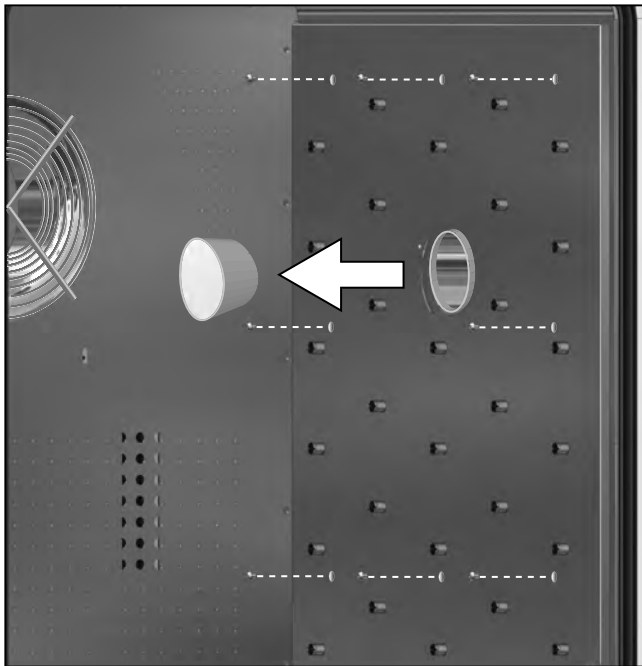
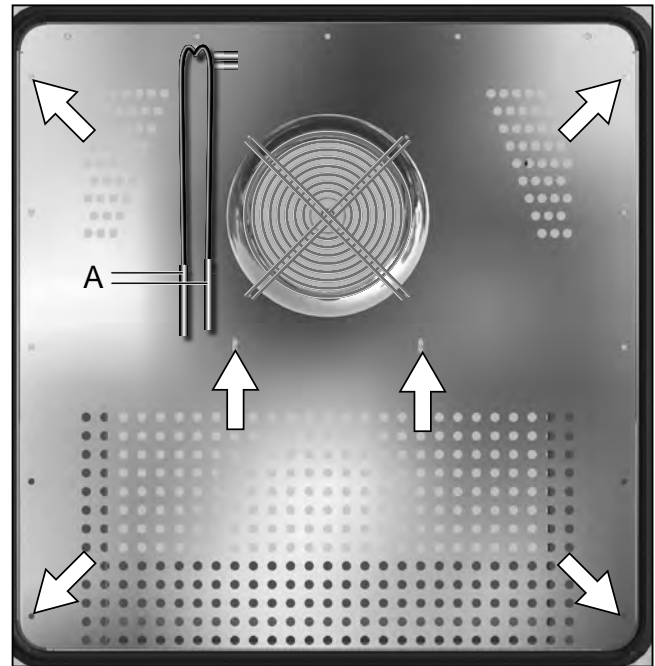

Fig. 36
Fig. 37
1. Pull out the silicone plugs, remove the 8 Allen screws each on the left and right side walls and remove the walls (Fig. 36).
2. Pull both temperature sensors from their sockets and let them hang down (Fig. 37, A).
3. Dismantle the rear wall of the test chamber; to do this, remove the 4 screws in the corners and 2 screws beneath the fan and pull out the metal plate at an angle (Fig. 36). Make sure that the temperature sensors are guided through the opening in the steel plate and remain in the interior.
5. When cleaning is finished, push the rear wall at an angle back into the test chamber. Thread the two temperature sensors through the opening in the metal sheet (Fig. 37, A).
7. Plug temperature sensors (A) into their sockets.
8. Insert the side interior walls on the left and right and tighten them with 8 screws each (Fig. 36). Reinsert the silicone plugs.